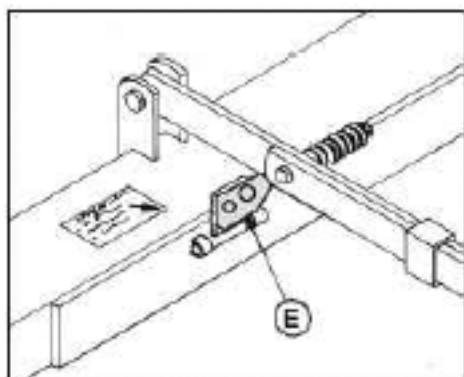

FIG. 7.3
Important: Remember always to turn release support E upwards before raising mower and before road transport (FIG 7.3).
During working operations make sure that release support E (FIG. 7.3) is in downward position.
4. Turn release support upwards E (FIG. 7.3). This will keep linkage pins in horizontal position in order to facilitate next hitching operations.